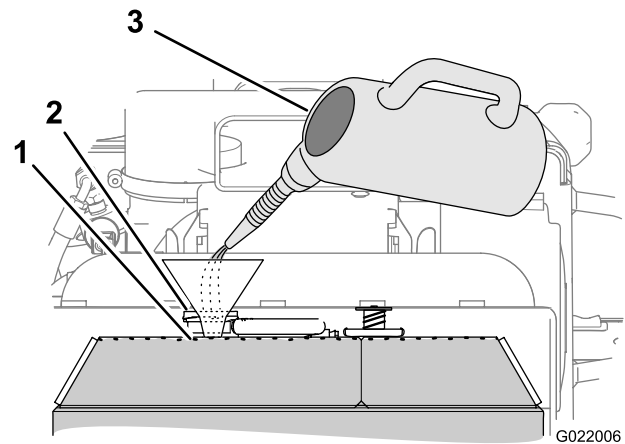

Figure 85
3. Fill the cooling radiator with the specified coolant mixture until the fluid level is up to the top of the filler neck (Figure 85).